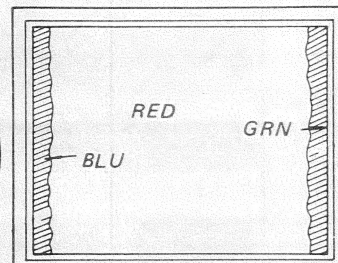

Fig. 3-2.
6. Turn purity control to center vertical red band as shown in Fig. 3-2.